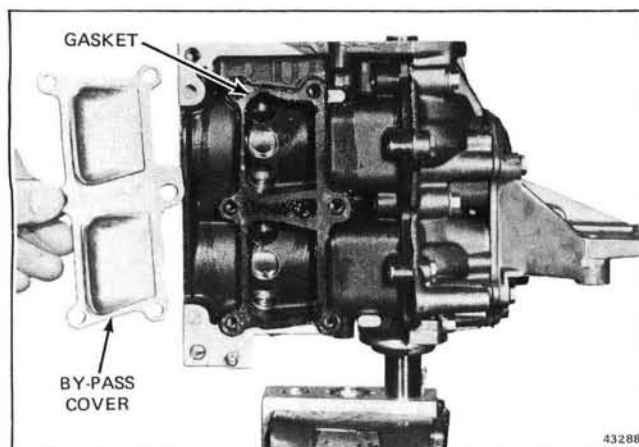

Figure 5-14. By-Pass Cover and Gasket
e. Remove by-pass cover and gasket. See Figure 5-14.